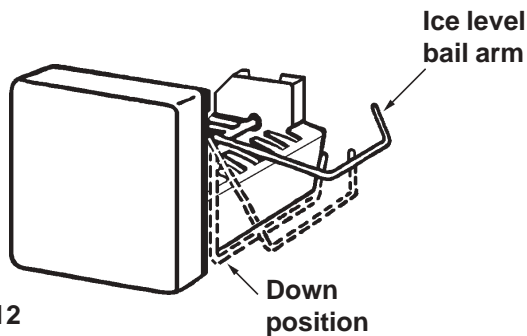

FIG. 12
1. The refrigerator must be connected to 120 volts AC before the ice maker can operate. The water valve supplying the refrigerator must be turned on, and the ice level bail arm in the fully down position. See figure 12.